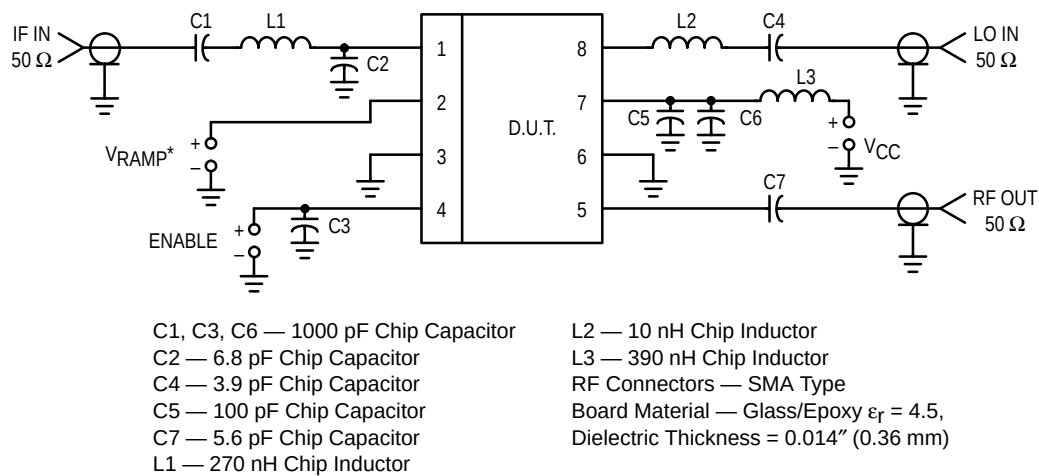

Figure 1. Test Circuit Configuration
2. All Electrical Characteristics are measured in test circuit schematic as shown in Figure 1.